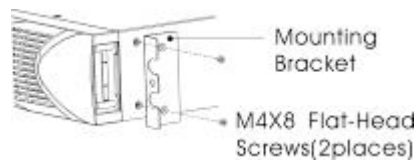

Figure 3: Installing the mounting brackets
- i) Align the mounting brackets with the screw holes on each side of the UPS and fix with the supplied M4×8 flat-head screws (see Figure 3).